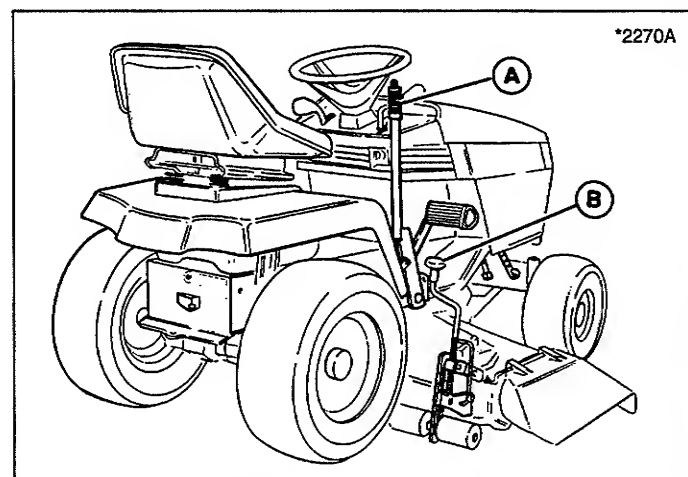

Figure 10. Mower Operation - Manual Lift
2. Place mower in the lowest cutting position using the mower height adjuster (B, figure 10). Place the mower lift lever (M, figure 2 or A, figure 10)) in the lowest position, also. Slide mower deck under right side of tractor so that mower hitch is aligned with front tractor hitch.
2. Place mower in the lowest cutting position using the mower height adjuster (B, figure 10).
3. Place the mower lift lever (A, figure 10 or M, figure 13) in the lowest position.
1. When traveling to or from the work site, fully raise the mower using the mower lift lever (A, figure 10 or M, figure 13). At the work site, lower mower using the lift lever.
2. Use the mower height adjuster (B, figure 10) to set the proper mowing height. See Mowing Patterns & Tips section for cutting height recommendations.
2. Place the mower in the transport position (up) using the mower lift lever (A, figure 10 or M, figure 13).